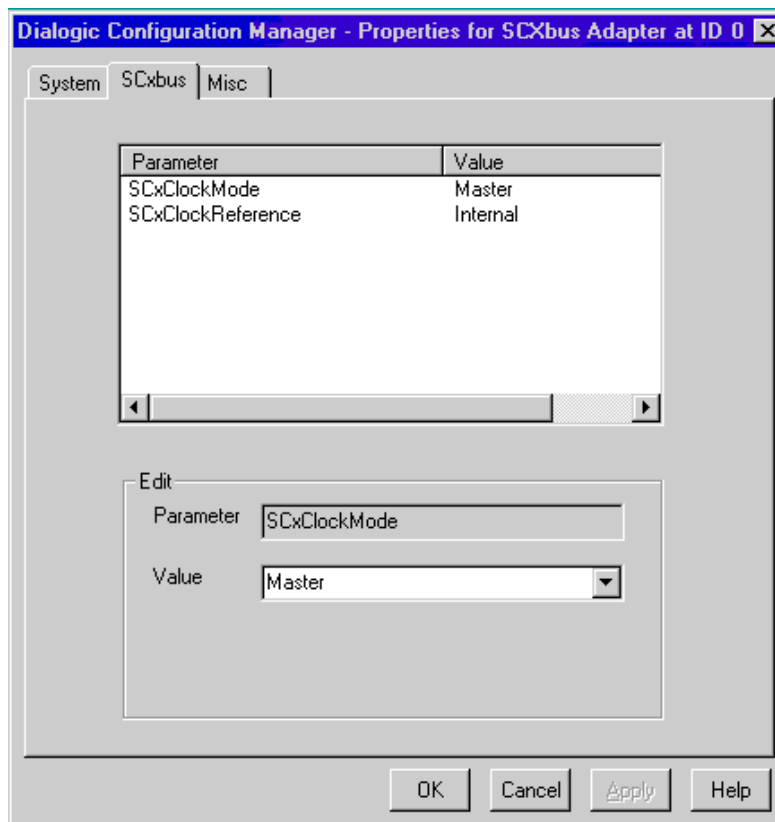

Figure 54. Properties for SCxbus Adapter screen
25. Double-click on the SCXbus Adapter and the Properties for SCXbus Adapter screen displays (Figure 54. *Properties for SCXbus Adapter screen*).